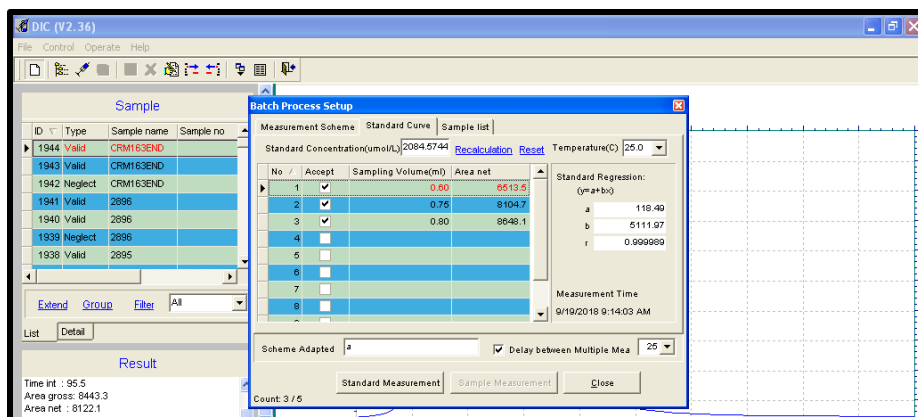

Figure 11. Calibration process window where the calibration details are entered.
4. Select the tab “standard curve”. Delete the value in the standard concentration ($\mu\text{mol/L}$) box. Select Reset to delete the old standard readings. The Area net should now be clear (Figure 11).